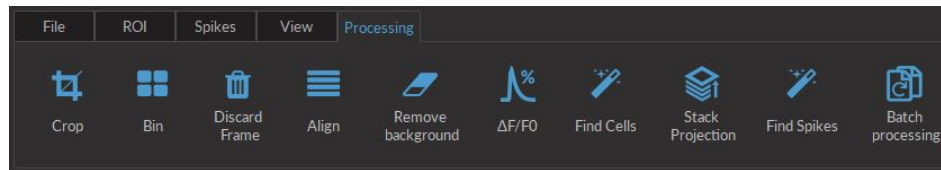

Figure 4.16: *Processing Tab*
5. The **Processing tab** (Fig. 4.16) is used to process the image data.